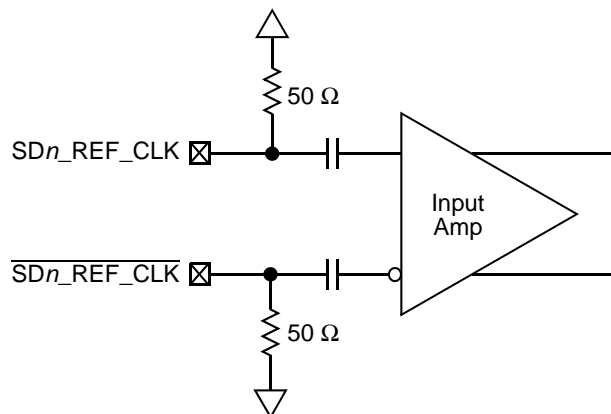

Figure 45. Receiver of SerDes Reference Clocks
Figure 45 shows a receiver reference diagram of the SerDes reference clocks.
- The  $\overline{SDn\_REF\_CLK}$  and  $SDn\_REF\_CLK$  are internally AC-coupled differential inputs as shown in Figure 45. Each differential clock input ( $\overline{SDn\_REF\_CLK}$  or  $SDn\_REF\_CLK$ ) has a 50- $\Omega$  termination to  $SGND\_SRDSn$  (xcovr55) followed by on-chip AC-coupling.